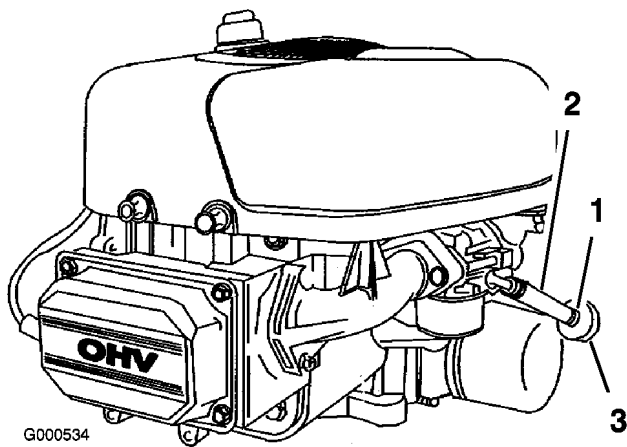

Figure 30
4. Loosen the hose clamp at the fuel filter and slide it up the fuel line away from the fuel filter (Figure 30).
5. Pull the fuel line off of the fuel filter (Figure 30).
7. Install the fuel line onto the fuel filter. Slide the hose clamp close to the fuel filter to secure the fuel line (Figure 30).